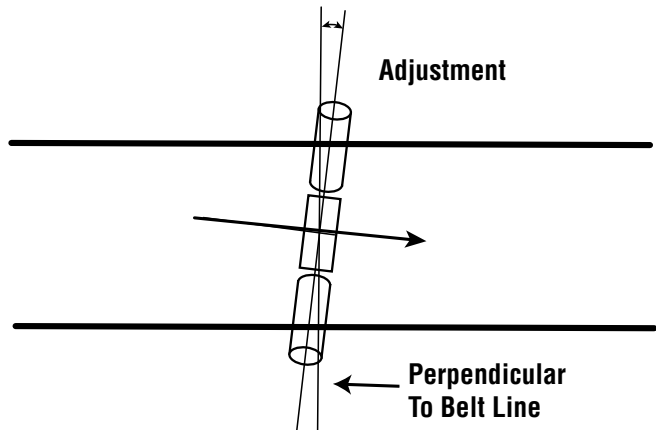

Fig. 5
- 2) Training the belt empty is a process of adjusting idlers and loading conditions in a manner which will correct any tendency of the belt to run off. The idler axis of few idlers may be adjusted if belt run-off one side. Note the run-off location and adjust few preceding idlers. The return side should be adjusted first starting at the head end. The adjustments are made by shifting the idler axis slightly so that the belt contacts the roll of the idler opposite the run-off. See Figure 5. The carrying side can then be adjusted by using the same procedure starting at the tail end and proceeding towards the head end.